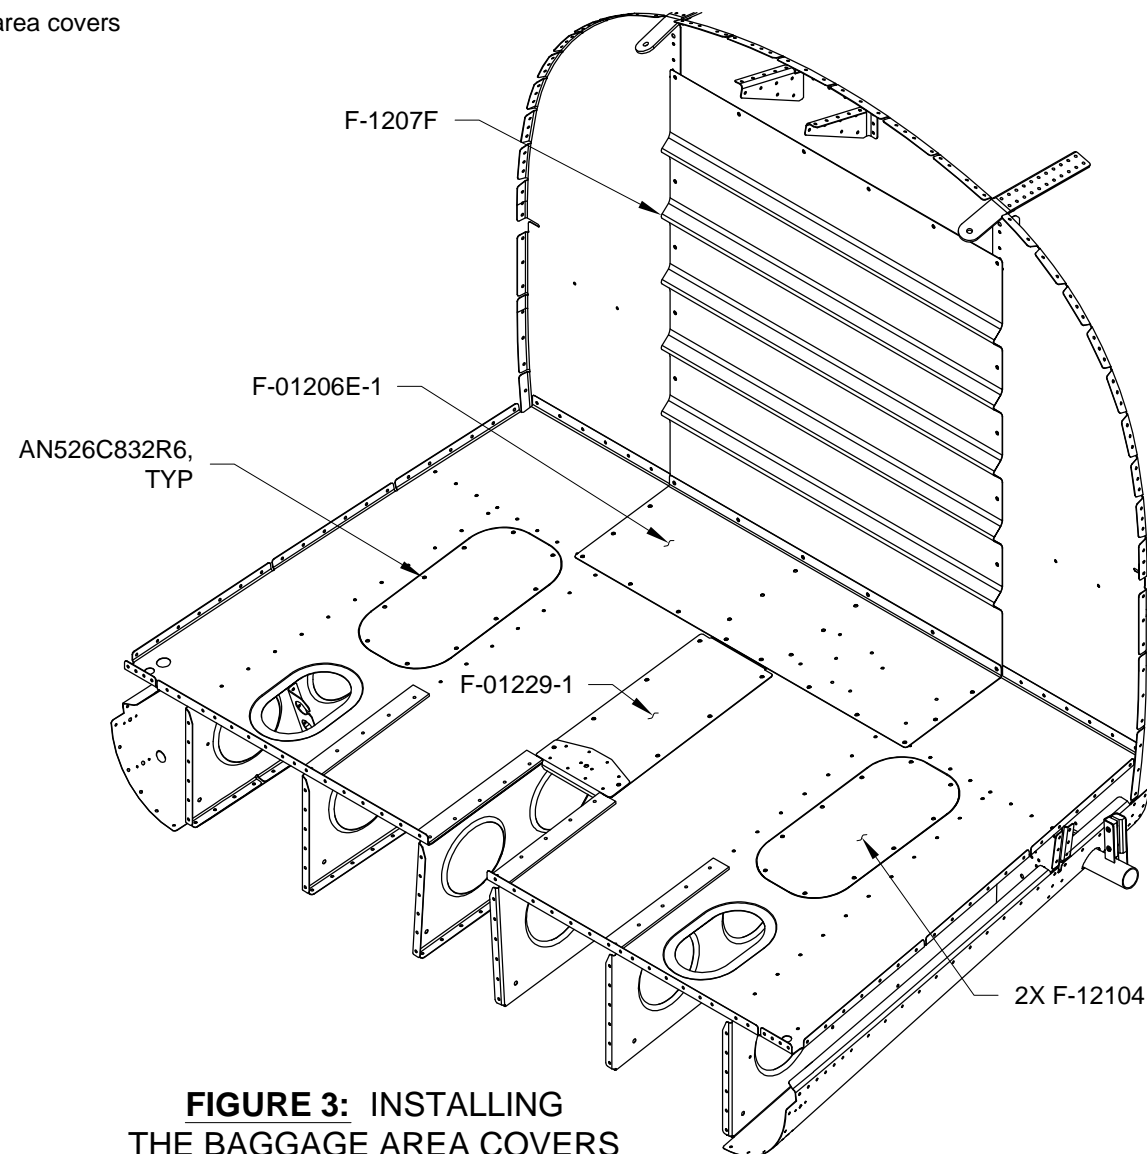

FIGURE 3: INSTALLING THE BAGGAGE AREA COVERS
Step 6: Install the baggage area covers as shown in Figure 3.